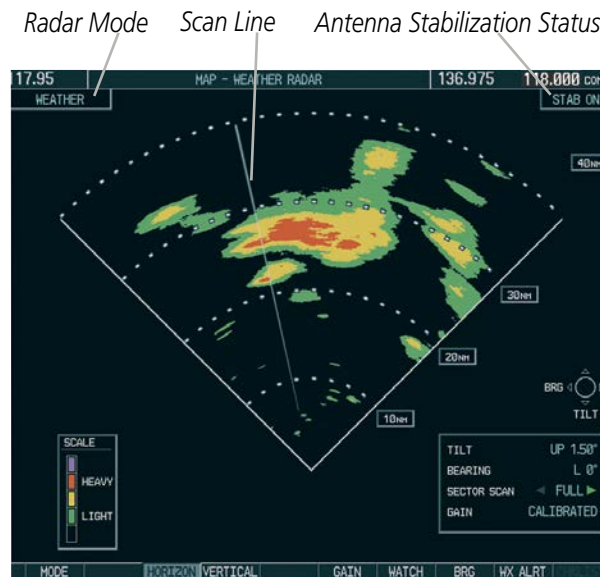

Figure 6-97 Horizontal Scan Display
- 5) The horizontal scan is initially displayed (Figure 6-97). If desired, select the **VERTICAL** Softkey to change to vertical scanning.